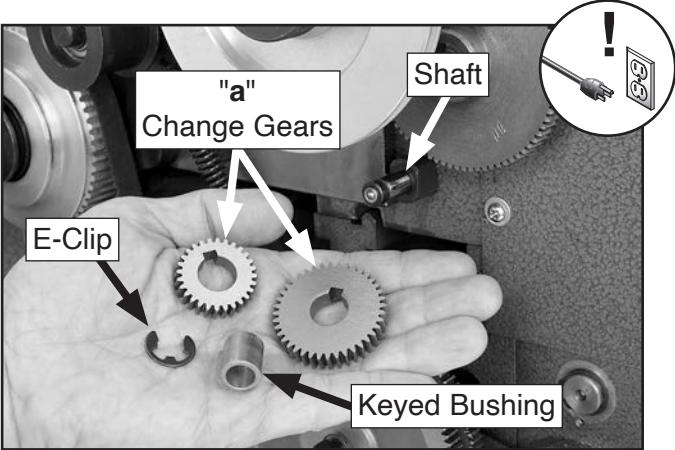

Figure 50. "a" change gears and shaft components.
- Remove the E-clip that secures the "a" gears, then remove the gears from the shaft (see **Figure 50**).